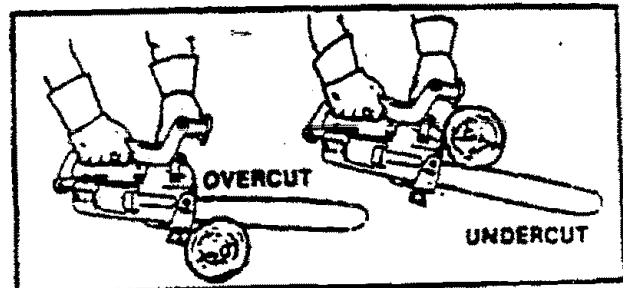

Figure 22
2. TYPES OF CUTTING USED Figure 22